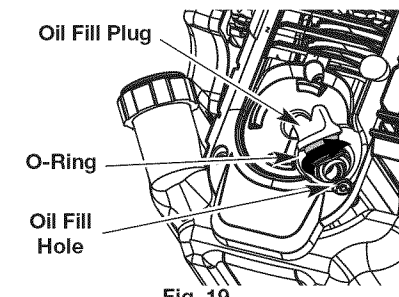

Fig. 19
**NOTE:** Make sure the O-ring is in place on the oil fill plug when checking and changing the oil (Fig. 19).